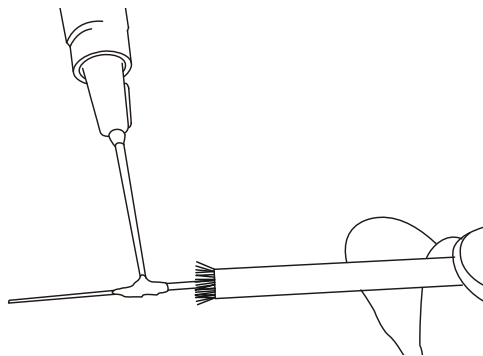

**Figure 26. Place Connector and Holder Assembly into 971A Holder Block**
3. **Place Connector into 971A Holder Block**—After 10 minutes of curing time, remove the connector and holder assembly from the oven and place it into one of the ports in the 971A holder block to cool (Figure 26).
9. **Allow Adhesive to Cure**—Place assembly in a 971A holder block (Figure 26). Allow adhesive to cure for at least 1 minute.